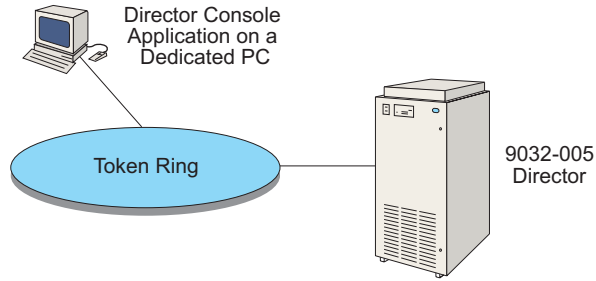

Figure 10. Director Console Application on a Dedicated PC
1. The recommended platform is a dedicated IBM PC with appropriate hardware and software (Figure 10). Refer to "Hardware Requirements" on page 22 for minimum specifications.